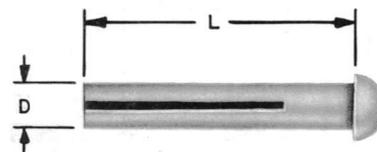

Fig. 3 — D Drive Anchor
1.05 D drive anchors (Fig. 3 and 4) are for use with standard drive rings.